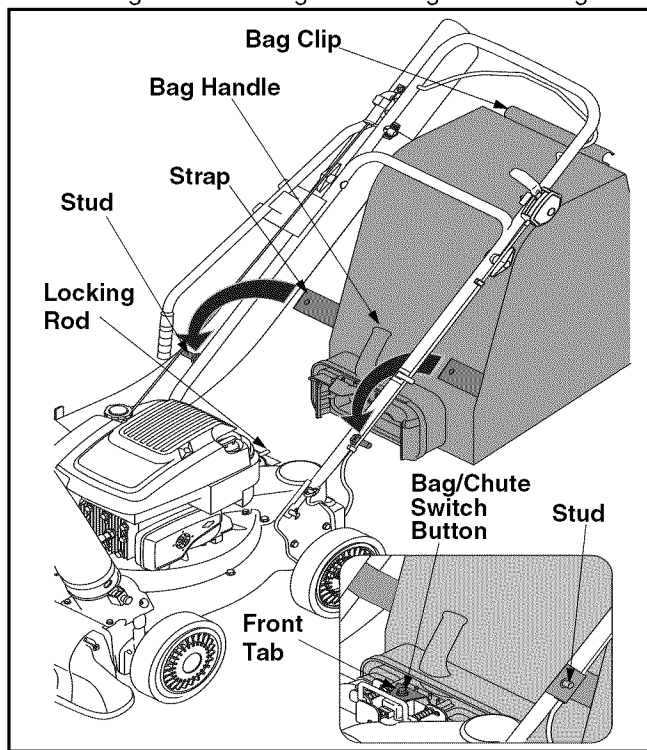

Figure 6
- Grasp bag handle with one hand and slide locking rod on mounting bracket with other hand toward engine. Use the end of mounting bracket as leverage when sliding the locking rod. See Figure 6.
- Lift bag off back of unit. Refer to Figure 6.